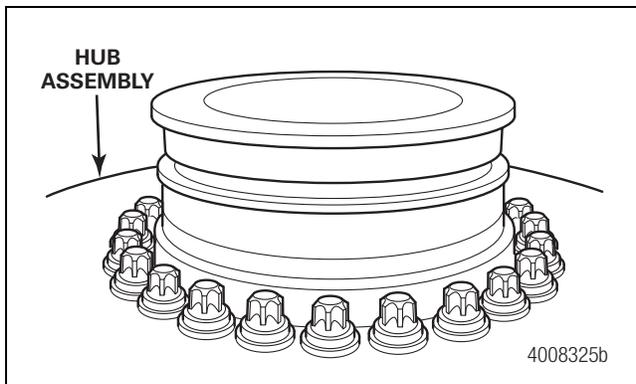
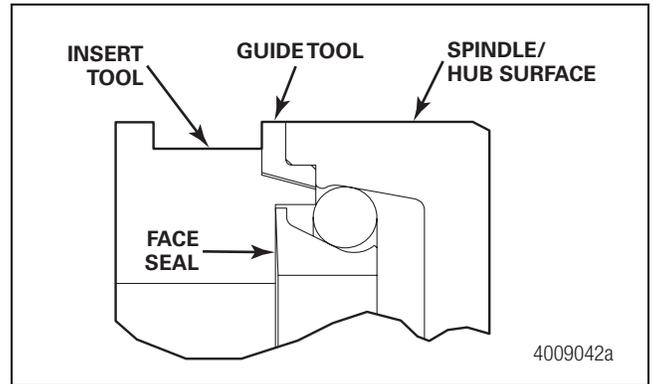

Figure 9.16
Figure 9.17
4. Dip the hub half of the face seal into isopropyl alcohol. While it is still wet, use the special driver to manually install the inner hub seal squarely into the hub assembly. Do not use a hammer or press. Figure 9.16 and Figure 9.17.